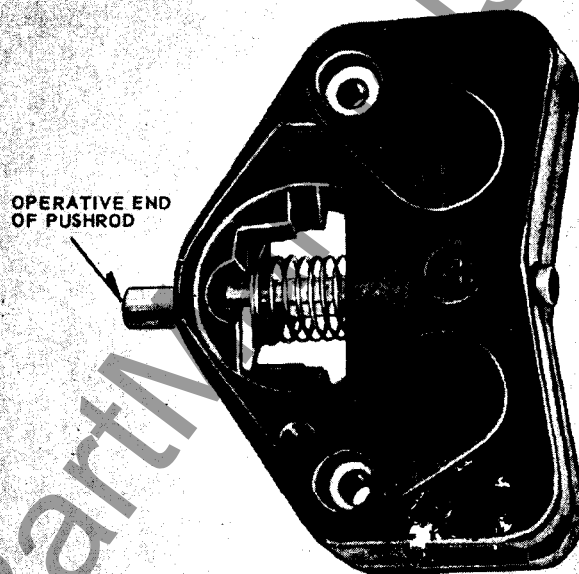

FIG. 3. Interlock Set for Normally Open Operation (Shown with Covers Removed)
1. Remove both covers (12) from the access openings by prying with a screwdriver blade.
2. Move the spring seat (8) against the springs (7), and lift it out of the triangular shelves in the molded housing. Rotate the spring seat about the pushrod until it can snap back into the open position as shown in Figure 3.
3. Note that the contacts are now open and that the interlock is operated by depressing the pushrod from the end indicated in Figure 3.